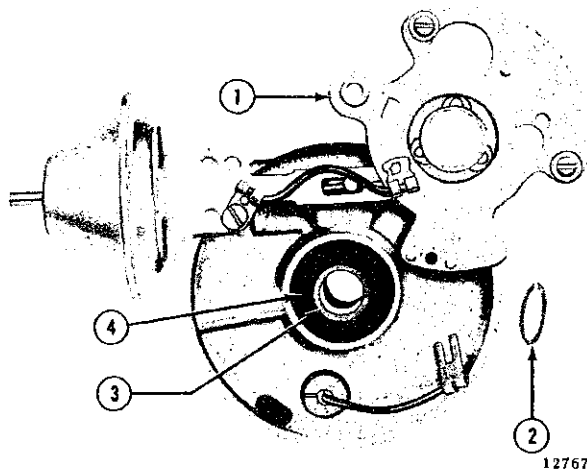

FIG. H-17—INSTALLING BREAKER PLATE ON DISTRIBUTOR HOUSING (DELCO)
b. Install felt washer over upper shaft bushing of distributor housing and apply a few drops of light oil. Secure breaker plate to upper bushing with retainer. See Fig. H-17.